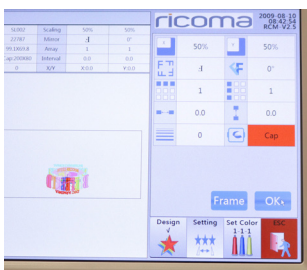

Figure 74
1. Select the function represented by an image of a cap inside a frame. **See Figure 74.**